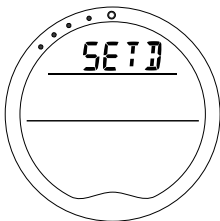

Fig. 41 - Set D
- > Depressing the A and S buttons simultaneously for 2 seconds while in the SURFACE MODE will access SET D identified by the graphic SETD (Fig. 41).